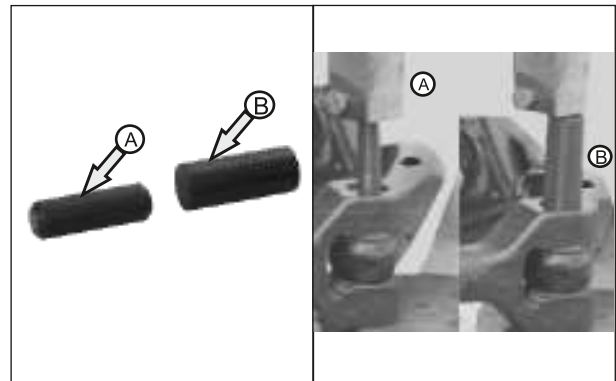

Fig. 1.24
- Keep the pin A on front fork assembly as shown in figure and apply the load by fly press and take out the pivot pin. Keep the pin B on front fork assembly and take out the damaged needle bearing.(Fig. 1.24)